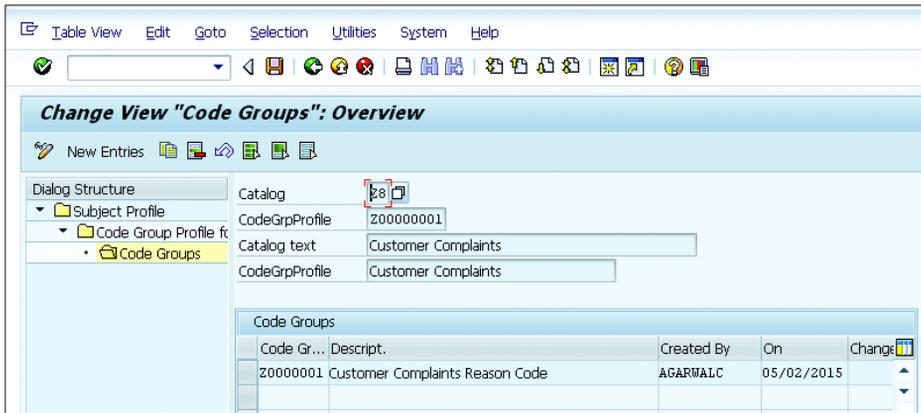

Figure 4.109 Code Group Assignment to the Code Group Profile
8. The hierarchy level in the SUBJ. PROF., as shown in Figure 4.108, corresponds to the value that you select in this field, which specifies the maximum hierarchy level that a code for this catalog may have in a service process or a complaint. Figure 4.108 and Figure 4.109 show the code group profile assignment to the subject profile and code group assignment to the code group profile, respectively.